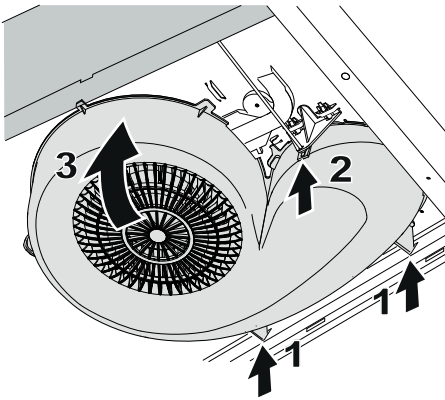

Fig. 7
Refit the blower by inserting the supports in the rear of the fan (1). Check that the damper shaft is correctly positioned in the blower (2). Bend up the blower (3). Fig. 7